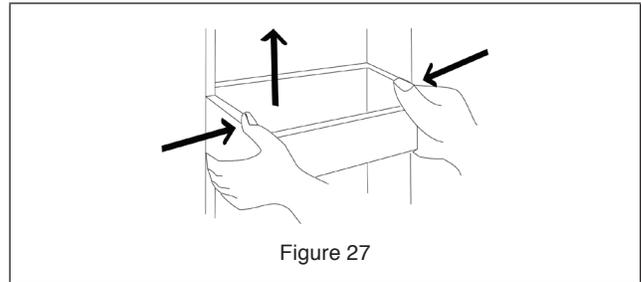

Figure 27
- Use both hands to hold and squeeze the bin, push it upward then remove. See Figure 27.